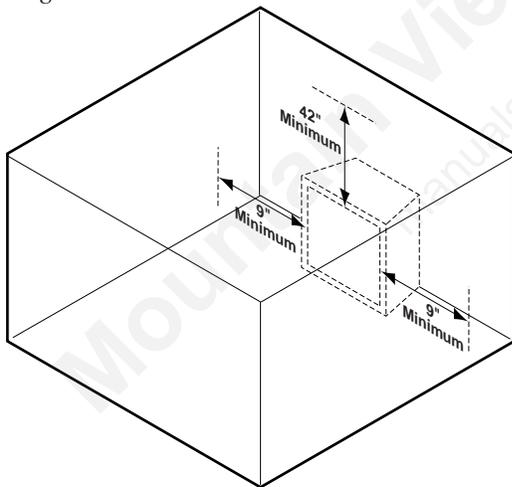

Figure 19 - Clearances and Height Requirements for DFX24/DBX24
1. **Sidewall Clearances** — The clearance from the inside of the appliance to any combustible adjacent wall should not be less than 9" for the DBX24/DFX24 or less than 15" for the DFX32. Refer to *Figures 19 and 20*.
2. **Ceiling Clearance** — The ceiling must be at least 42" from the top of the firebox opening. Refer to *Figures 19 and 20*.
The dimensions shown in Figures 19 through 21 are minimum clearances to maintain in installing this heater. Left and right clearances are determined when facing the front of the heater.